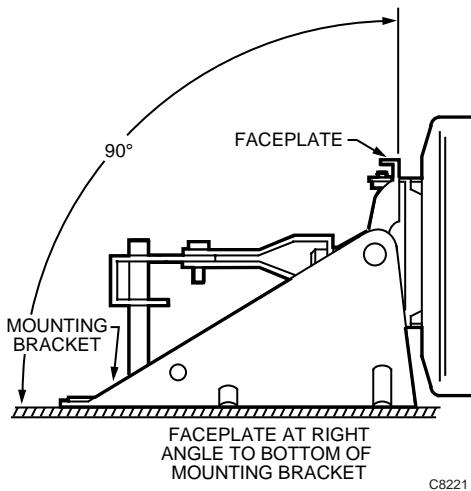

Fig. 2. External Mounting Faceplate Positioning.
- ❷ Check faceplate position (Fig. 2). Adjust faceplate position if necessary.
- ❸ Determine the damper drive axle direction of rotation to the normal position (position with 0 psi applied to actuator).
- ❹ Rotate damper drive axle to normal position.